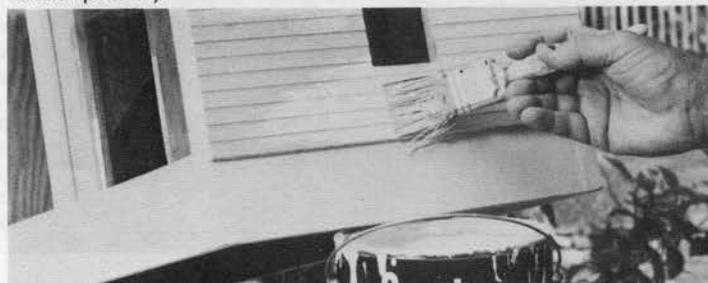

**Fig. D-8**
After the rear wall is completed, match the corners of the end walls (L) as well as possible, (G), in (FIGURE D-8).